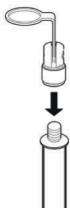

Fig. 1
1. Screw the microphone clip onto robust, stable stand (Fig. 1).